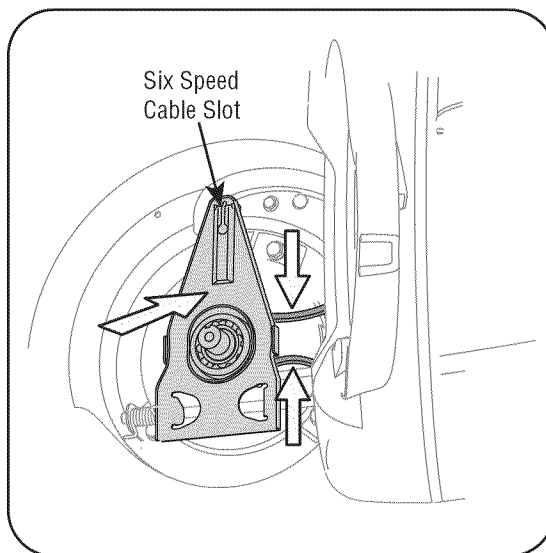

Figure 20
10. Squeeze the belt together and push it forward, while pressing the control arm inward towards the deck and remove six speed cable from the slot. See Figure 20.